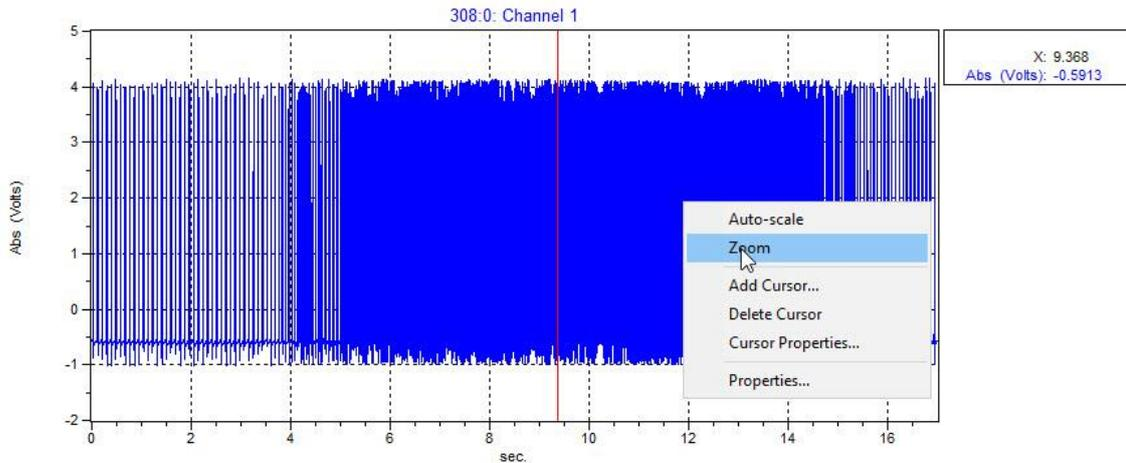

Figure 10: Zoom of Channel 1 Demo Data
1. Right-click on the main plot and choose “Zoom” as shown in Figure 10.